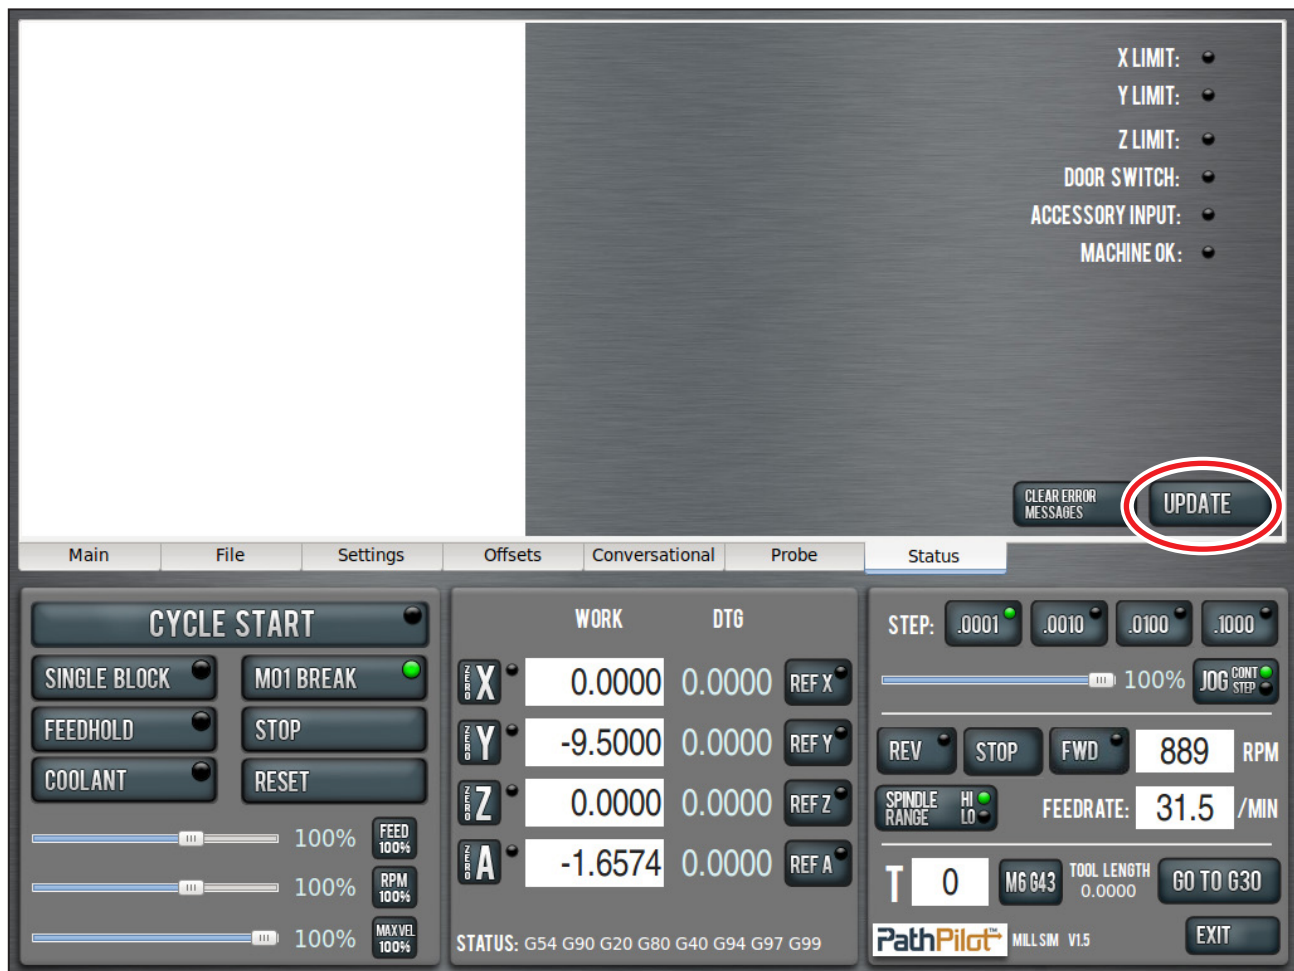

Figure 3
4. With the PathPilot controller on and out of *Reset*, click *Update* on the *Status* tab (see **Figure 3**).